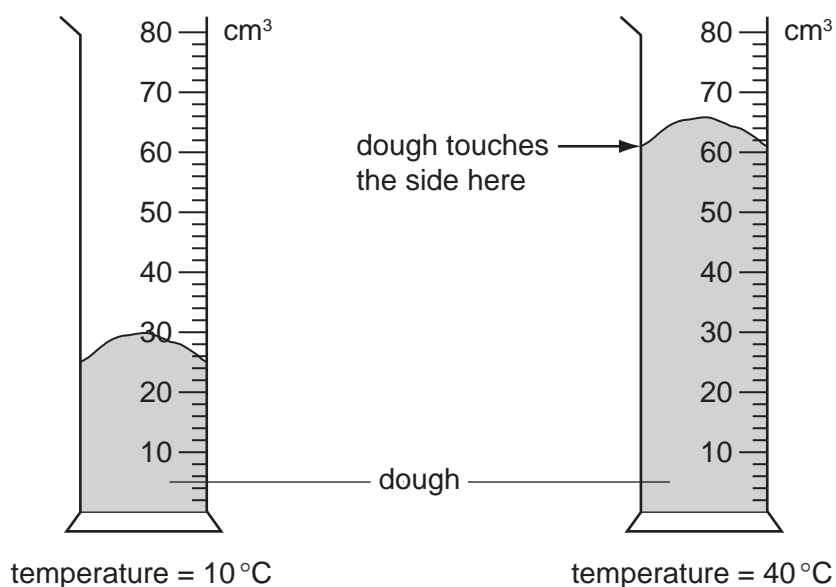

Fig. 4.1
- (i) Read the scales of the measuring cylinders in Fig. 4.1 at the line where the dough touches the side to find the missing volumes of dough. Enter the values of v for 10°C and 40°C in Table 4.1. [2]